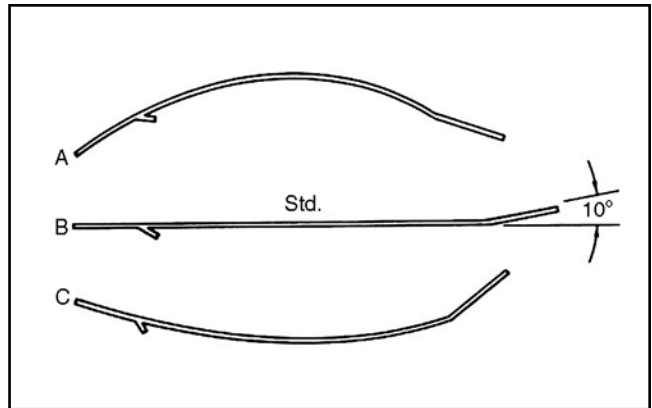
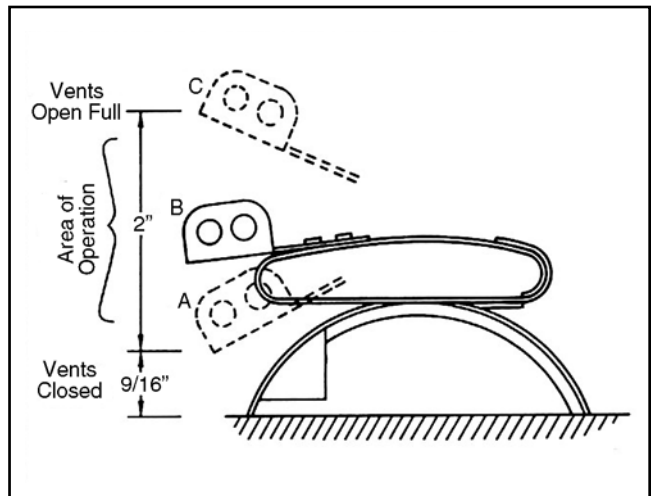

Figure 11 – (Drawn to Scale)
Figure 12
6. Examine the shape of the bias band (see Figure 11). Refer to the Buoyancy Adjustment section to ensure proper float buoyancy.
the approximate shape as shown in Figure 11, Shape "B". This shape results in the valve assembly assuming a position as shown in Figure 12. The valve is partially open and requires very little vertical force to close or open further. This adjustment should be satisfactory for the majority of applications. If it is necessary to alter the float buoyancy for a particular application, the bias band should be altered in the following manner:
- If the curve of the bias band is increased, as shown in Figure 11, Shape "A", the valve wants to open and less air will have to be accumulated in the air eliminator before the float drops to open the vent.
- If the curve of the bias band is reversed, as shown in Figure 11, Shape "C", the valve wants to close and more air will have to be accumulated in the air eliminator before the float drops and the vent opens.